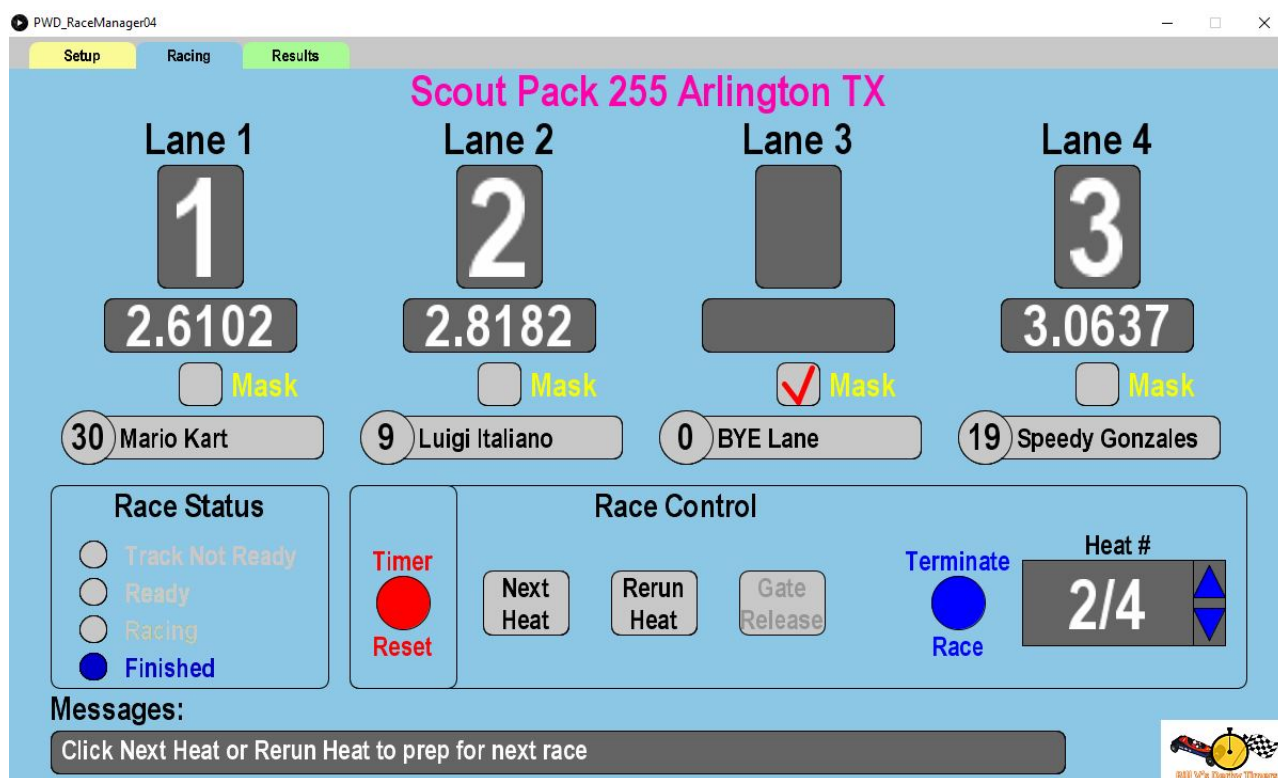

Figure 10 –Lane Mask Example
Lane Mask Checkboxes	<ul style="list-style-type: none">• Alternately displays or clears a check-mark in the checkbox each time it is clicked (See Figure 10).• Sends the appropriate lane mask and un-mask commands to the Arduino timer.
6. If any lanes are designated as a BYE lane a check-mark will appear in the appropriate Mask checkbox to designate it as such and "BYE Lane" will be displayed in the name box (See Fig. 10).
The 'Mask' checkboxes alternately display or clear a check-mark in the checkbox each time it is clicked. Manually checking a 'Mask' checkbox should only be done when running a practice heat in which less than 4 cars are racing. When checked, it sends the mask command for that lane to the Arduino timer. When unchecked it sends the unmask command for that lane to the Arduino timer. The Arduino timer will ignore any masked lanes (i.e. not wait for them to time out) while the race is in progress. Figure 10 shows an example of an automatically checked lane mask box when the automatically generated race plan includes a BYE lane designation in a heat.